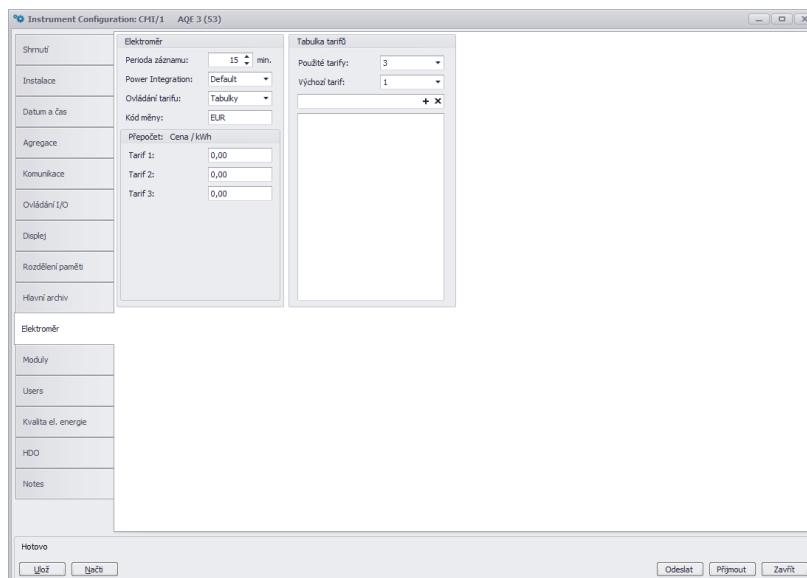

Figure 18: ENVIS.Daq — setting the electricity meter and tariffs and electricity prices.
2.4.8 Electricity meter (fig. 18)